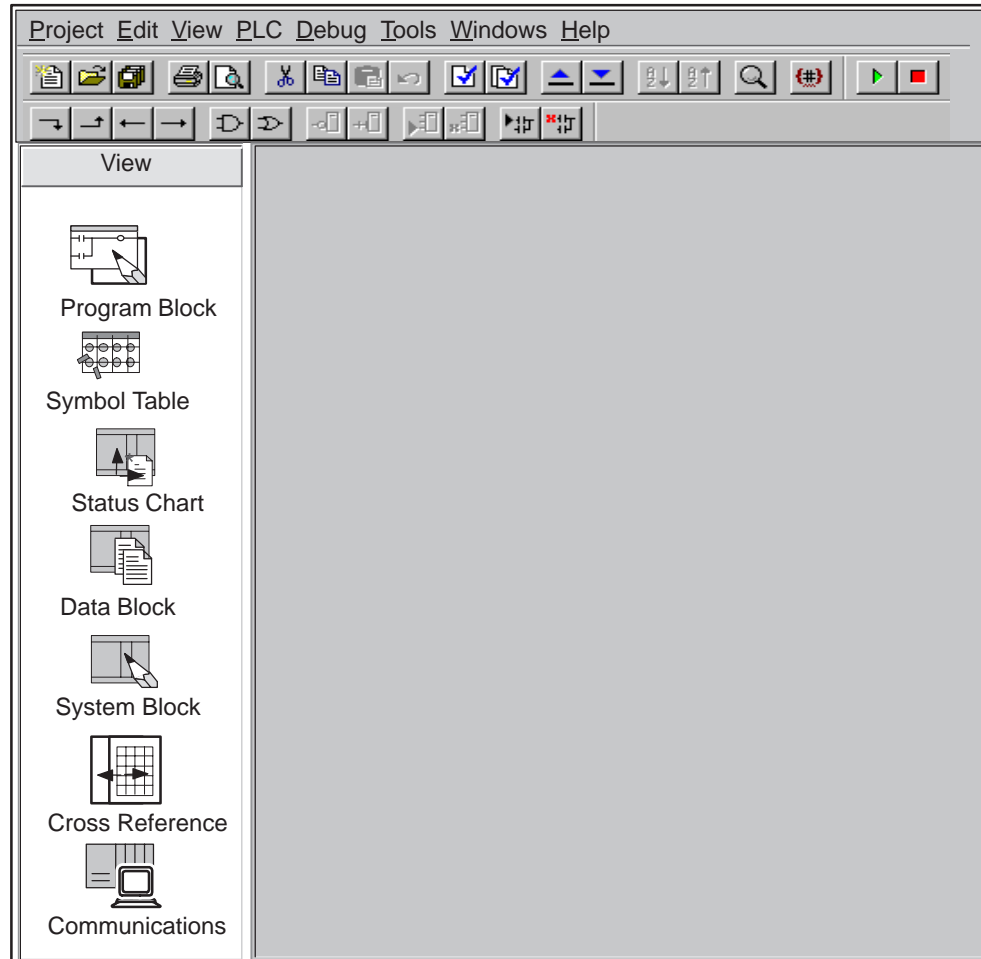

Figure 7-3 View Menu of STEP 7-Micro/WIN 32
- Click the Communications icon on the STEP 7-Micro/WIN 32 screen (see Figure 7-3).